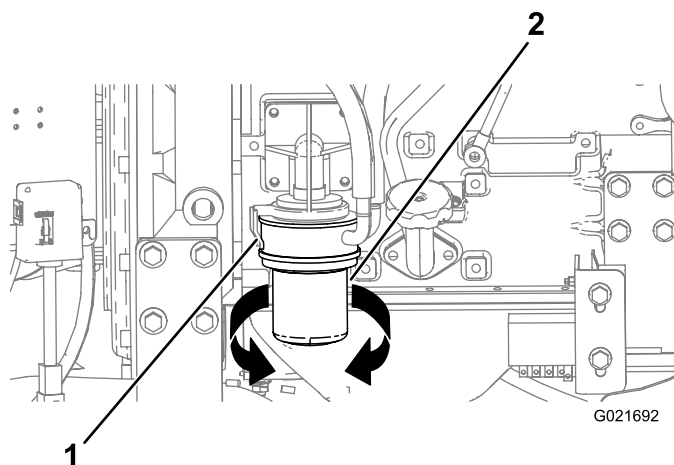

Figure 122
3. Align a drain pan or several rags under the oil filter and the oil-filter adapter (Figure 122).
4. Rotate the oil filter counterclockwise and remove the oil filter (Figure 122).
8. Align the oil filter to the oil-filter adapter and rotate it clockwise until the seal of the oil filter contacts the oil-filter adapter (Figure 122).
9. Hand tighten the oil filter an additional 1/2 turn (Figure 122).